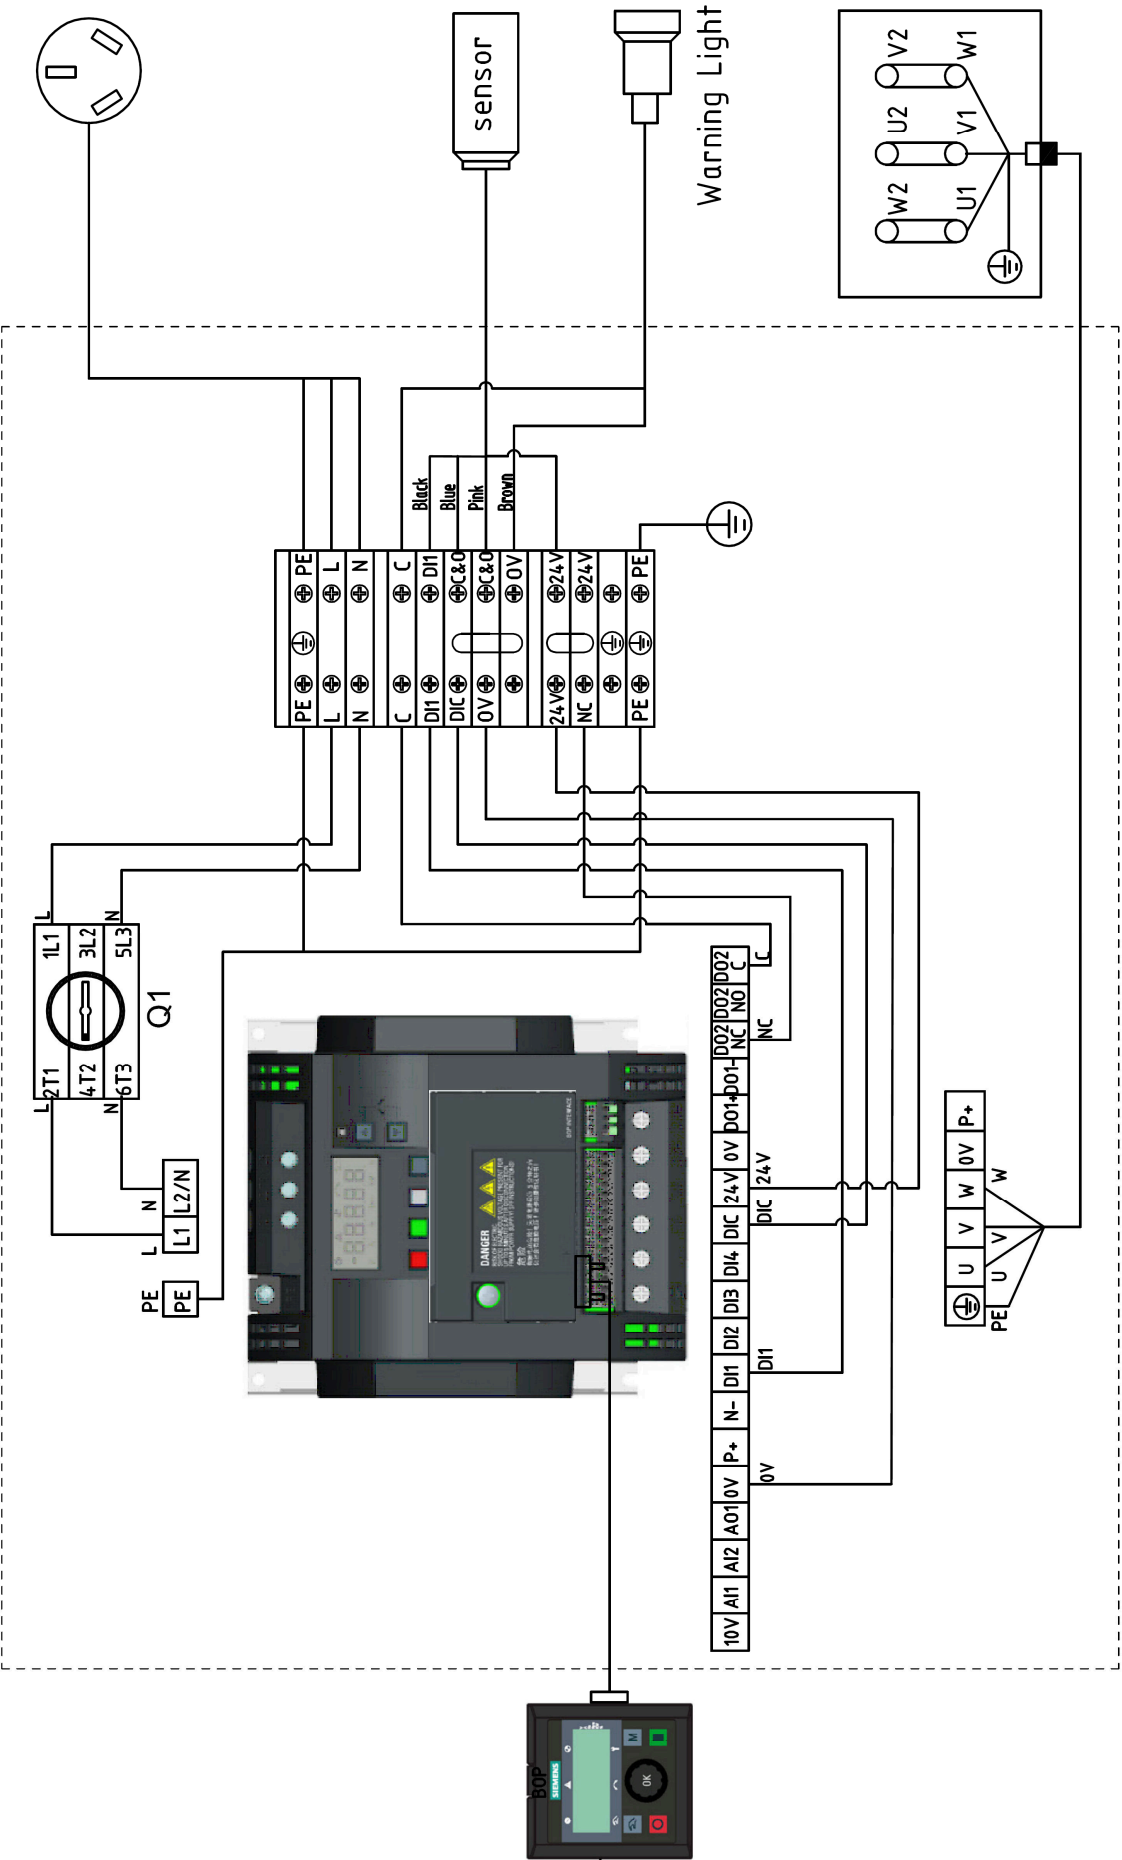

Fig.2
2.3.3 Electrical diagram(Fig.2)